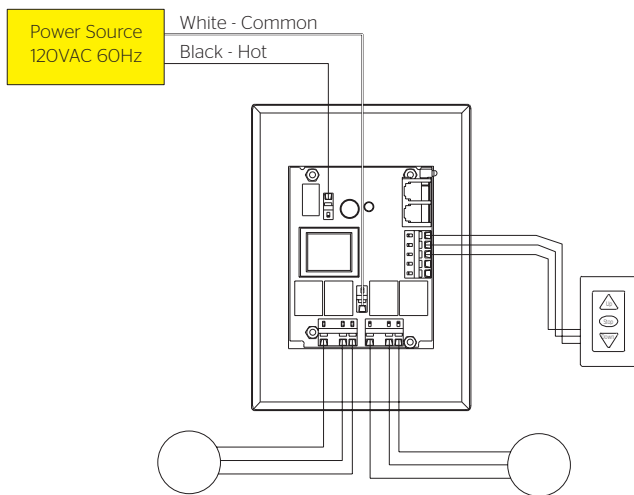

Figure 12
1. Connect power wires to the DMC terminal as shown in Figures 12 or 13.